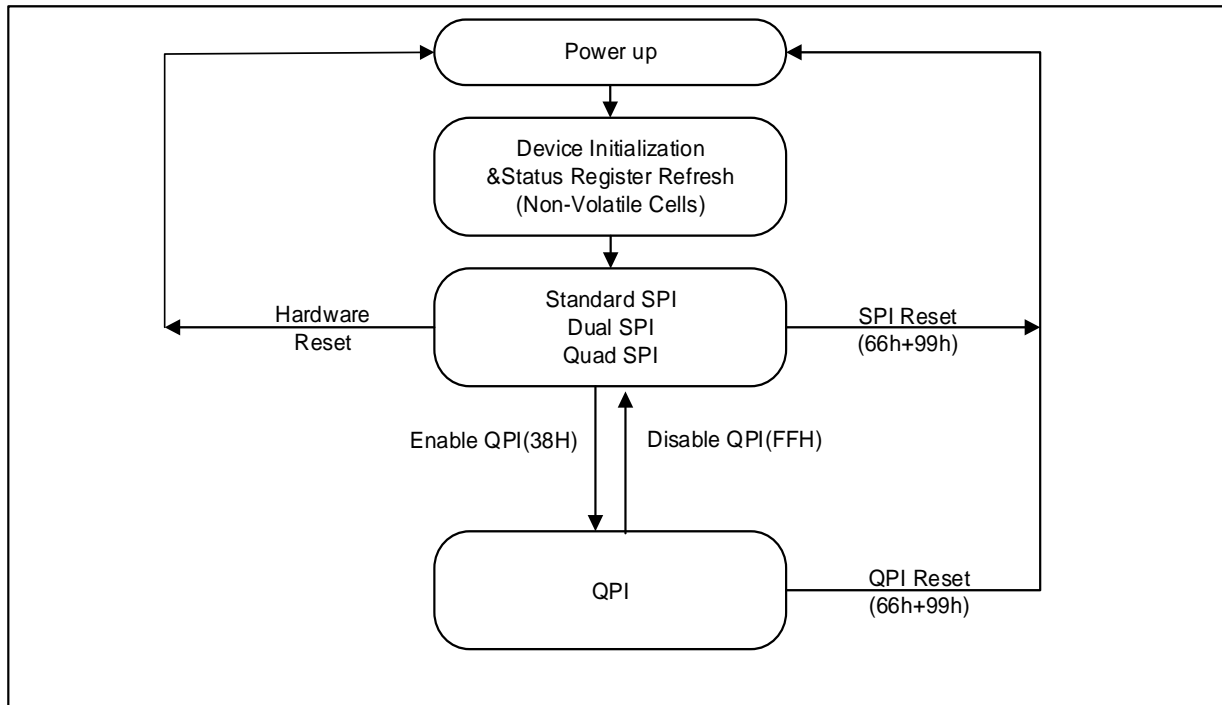

Figure 3. XM25LU32C Serial Flash Memory Operation Diagram
The XM25LU32C supports Quad Peripheral Interface (QPI) operations only when the device is switched from Standard/Dual/Quad SPI mode to QPI mode using the “Enter QPI (38h)” instruction. The typical SPI protocol requires that the byte-long instruction code being shifted into the device only via DI pin in eight serial clocks. The QPI mode utilizes all four IO pins to input the instruction code, thus only two serial clocks are required. This can significantly reduce the SPI instruction overhead and improve system performance in an XIP environment. Standard/Dual/Quad SPI mode and QPI mode are exclusive. Only one mode can be active at any given time. “Enter QPI (38h)” and “Exit QPI (FFh)” instructions are used to switch between these two modes. Upon power-up or after a software reset using “Reset (99h)” instruction, the default state of the device is Standard/Dual/Quad SPI mode. To enable QPI mode, the non-volatile Quad Enable bit (QE) in Status Register-2 is required to be set. When using QPI instructions, the DI and DO pins become bidirectional IO0 and IO1, and the /WP and /HOLD pins become IO2 and IO3 respectively. See Figure 3 for the device operation modes.